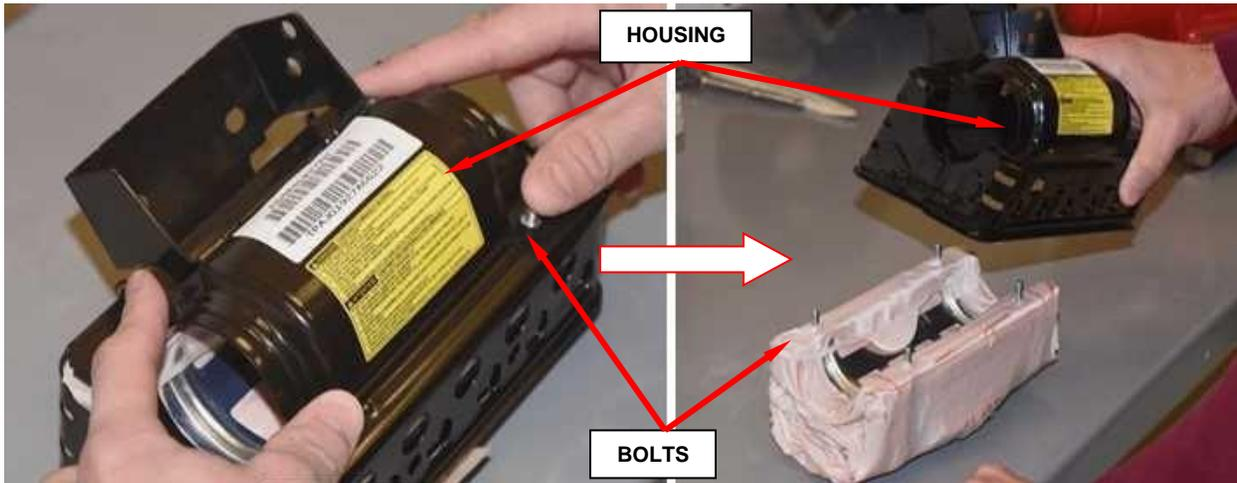

Figure 17 - Remove Airbag Cushion from Housing
g. Remove airbag cushion from housing by applying pressure to the bolts, set cushion aside (Figure 17).